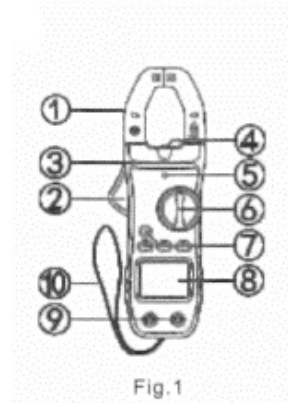

Fig.1
4.1. PANEL ILLUSTRATION (Fig.1)